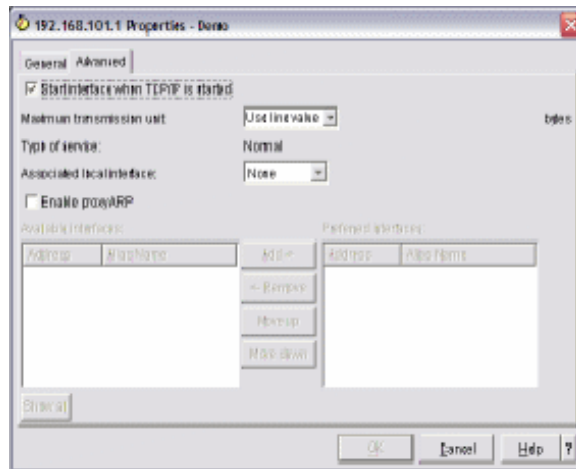

Figure 6-71 Properties TCP/IP interface
- e. Check the box **Start interface when TCP/IP is started**. See Figure 6-71 on page 220.